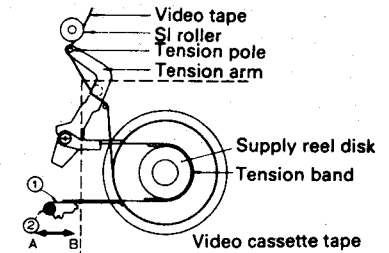

Figure 15.
- 1) When the position of the tension pole is less than 1.25 mm to the left of the center of the SI roller, move the tension band adjustment angle (1) in the direction of the arrow B in figure 15 and tighten the screw.
- 2) Where the position of the tension pole is more than 1 mm to the left of the center of the SI roller, move the tension band adjustment angle (1) in the direction of the arrow A in figure 15 and tighten the screw.